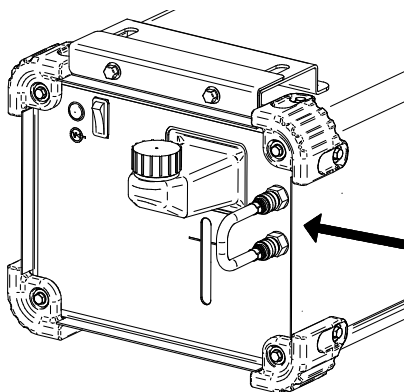

Figure 5.
- Connect the hose with quick water connector (added to the equipment) to the cooler's inlet and outlet socket (Figure 5).